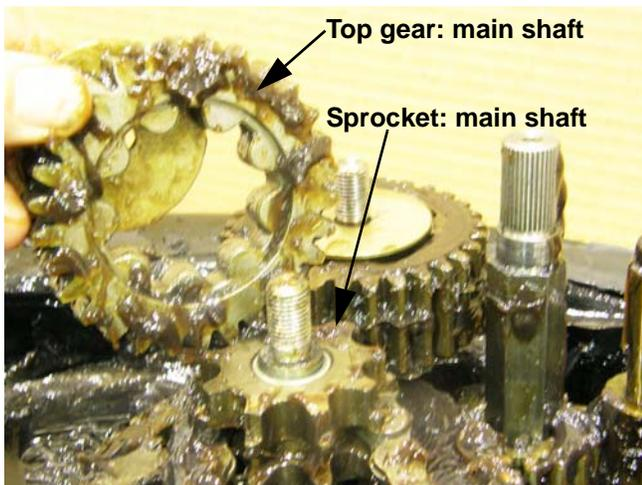

Figure 5.31
3. Remove the top gear from the main shaft. See Figure 5.31.